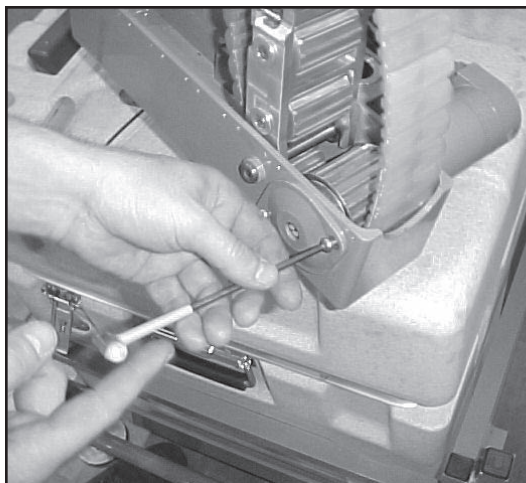

Figure 6
6. Remove two screws from bearing cap (Figure 6)